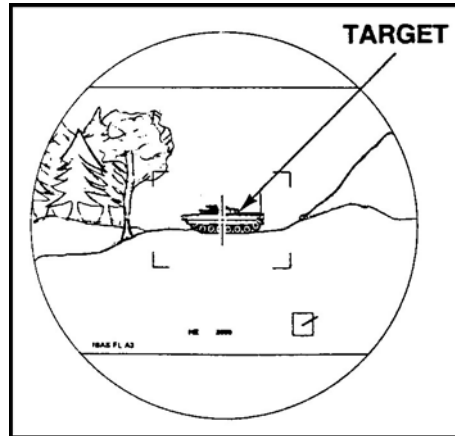

Figure 11. Aligned turret/CIV position indicators.
- (1) Squeeze and hold palm switch on CHS.
- (2) Lift the TD button guard.
- (3) Press and release the TD button.
- (4) Observe the TGT DESIG symbology in the upper left corner of the RBD and TAS display.
- (5) Observe that the turret and gun have moved to align the TAS LOS with the CIV LOS.
- (6) Continue to squeeze palm switch on the CHS and track the target until sights are aligned.
- (7) Release palm switch.
- (a) When the turret/CIV position indicators are aligned and the TGT DESIG symbology has been removed from the sight (Figure 11).